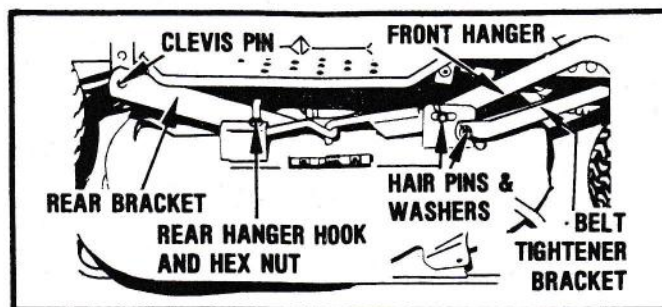

FIGURE 10
8. Slide the mower out from under tractor. See Figure 10.
5. Attach the front hanger arms (right and left) to the mower with hair pins and washers. See Figure 10.
6. Turn the hanger hooks in and hang the rear of the mower to the rear hanger assembly. See Figure 10.
3. If adjustment is required, turn the hex nuts on the hanger hooks up or down to secure the proper adjustment. See Figure 10.